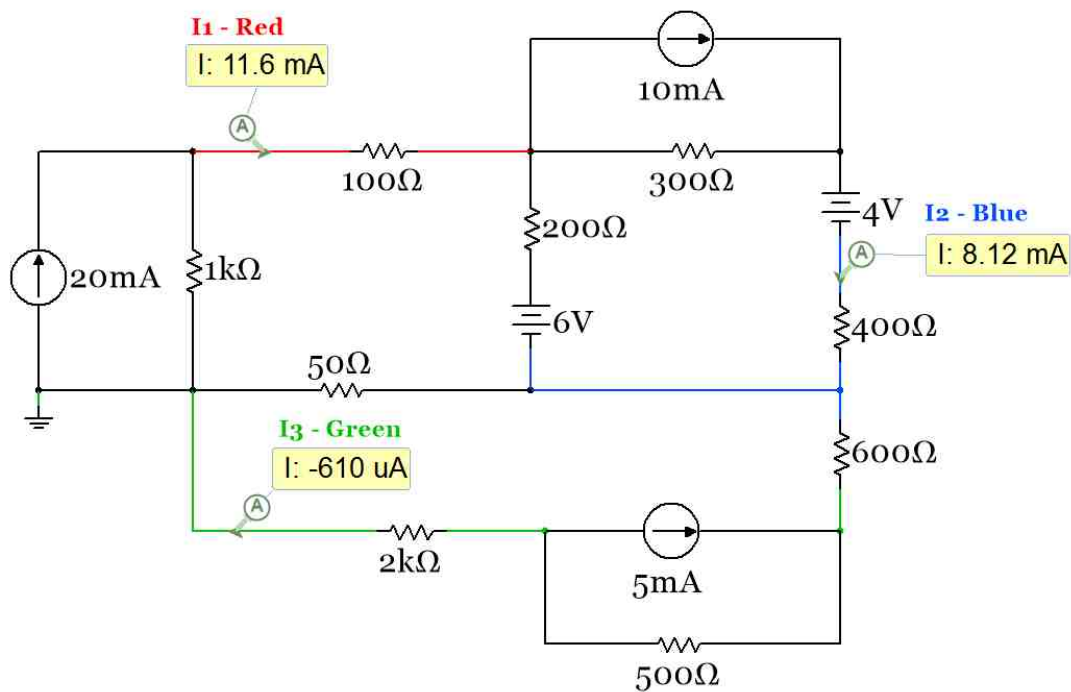

Figure 2.15: Circuit for example 2.8.
Example 2.8) Solve the circuit in Figure 2.15 for the 3 currents shown with the Multisim current probes using the Mesh Matrix Method. Source Transformations must be performed so that all sources are voltage sources.
- 3) The matrix in Figure 2.15 produces positive  $I_1$  and  $I_2$  values so those currents are clockwise. We will also assume  $I_3$  is also clockwise, but it is calculated as negative which means it is counter-clockwise.